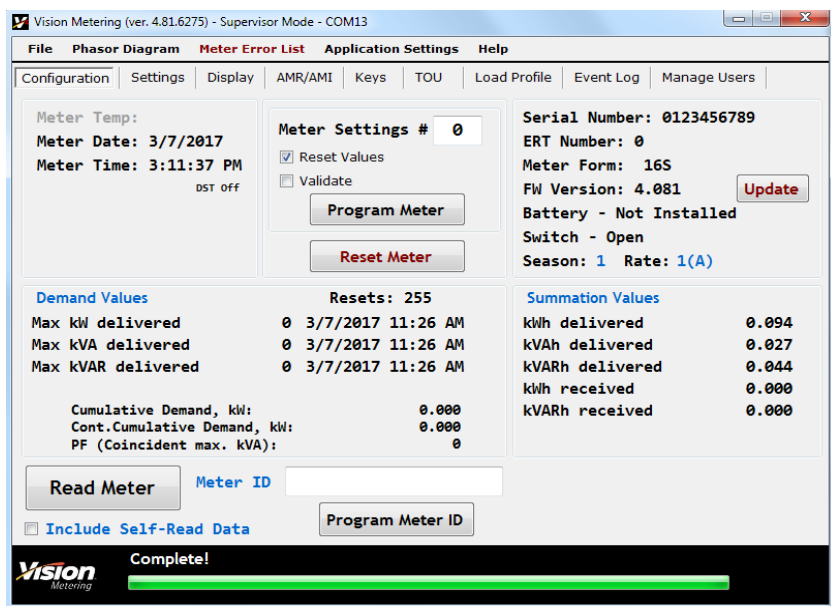

Figure 7
Clicking on the **Read Meter** button located on the bottom left corner, will load all of the data read from the meter and populate the empty fields throughout the different tabs. This is shown in **Figure 7**.
- As shown in **Figure 7**, the **Update Firmware** button updates the firmware on the meter and displays the current version on the screen. If the **Update Firmware** button is inaccessible, refer to Section 13 for assignment of privileges and user management.